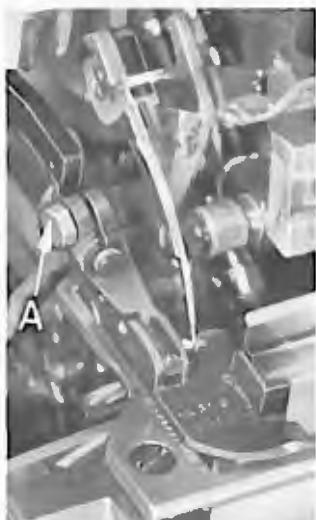
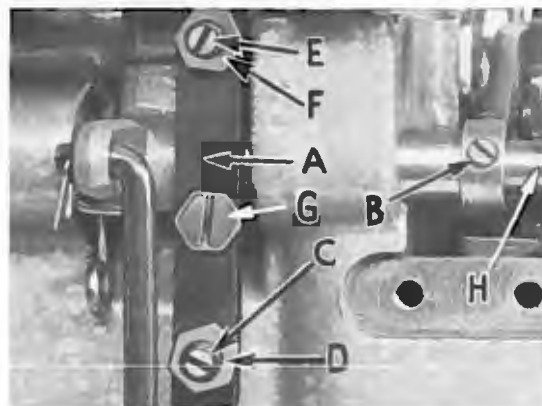

Fig. 18
Fig. 19
Assemble the presser foot to presser arm. With needle in high position, swing presser arm into sewing position and set the presser foot to align needle holes (front and back) and flat on throat plate. The front edge of needle hole in presser foot must be aligned with front edge of needle hole in throat plate. It is also important that the bottom of the presser foot be flat on the throat plate. To change presser foot setting loosen screw (A, Fig. 18) and move foot forward or backward on presser arm as required to align needle holes, or move foot left or right around presser arm until foot is flat on throat plate. Retighten screw. If necessary, presser foot can be realigned with throat plate slots by shifting the foot lifter lever shaft (H, Fig. 19). To move the shaft, loosen collar screws (B, Fig. 19) and clamp screw (G) and then shift the foot lifter lever shaft to the left or right as required. Retighten collar screws and clamp screw.
The foot lifter lever arm (A, Fig. 19) and the collar (B) secure the shaft. Be sure the presser arm does not bind and rise when presser foot release bushing is unlocked.